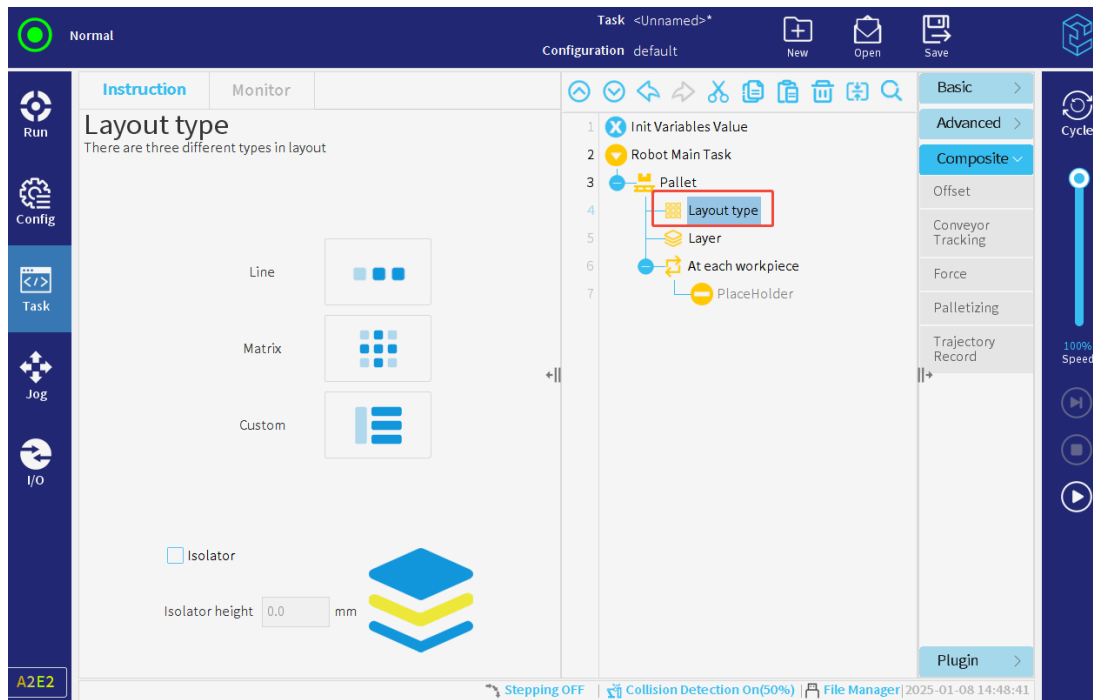

Figure 3-123 : Set layout type
3. Click the "Layout type" node in the task tree, then the user can set it to "Line", "Matrix" or "Custom", as shown in **Figure 3-123**.